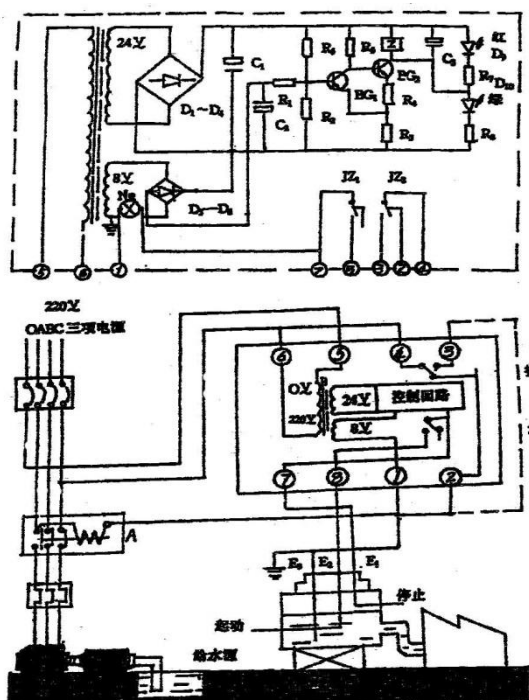

Fig. 6-2-1 Principle Drawings of UDK-201/G
6.2.1 Electric principle drawing (see Fig. 6-2-1)